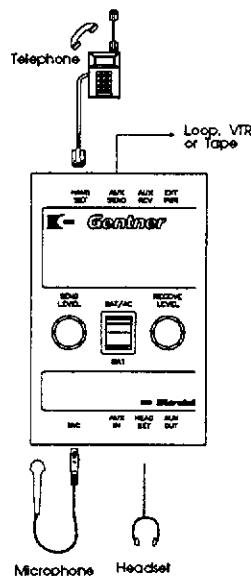

Figure 5
1. Set up your Microtel as described in "General Use" (page 4) and shown in Figure 5.